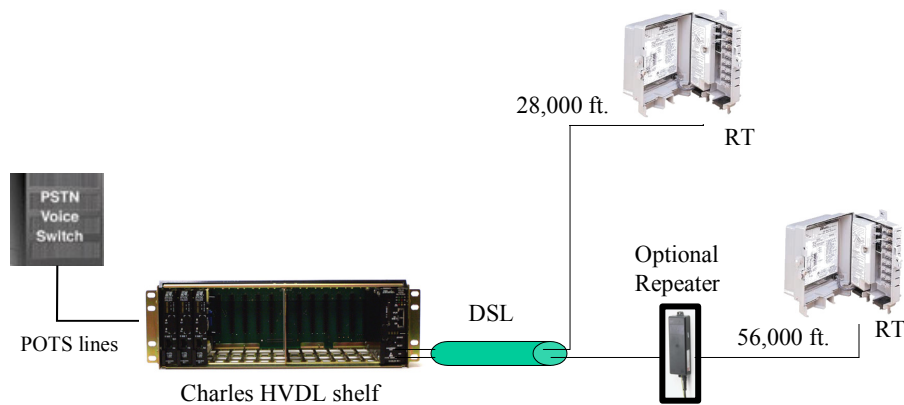

Figure 1 –HVDL systems
The HVDL system uses standards based G.SHDSL to transport high-speed data and POTS service to customers located outside the range of other high-speed data technologies, such as ADSL. An HVDL system consists of a Central Office Terminal (COT), a Remote Terminal (RT) and if needed, up to 3 repeaters. Figure 1 shows two HVDL installations – one with a repeater, and one without.